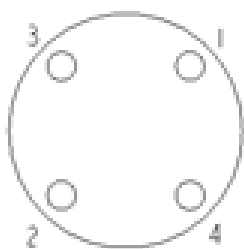

Figure 1: Bolt Tightening Sequence
1.3.4.3.2. Flange bolts should be tight enough to compress the gasket and make a good seal, without distorting or putting excessive stress on the flanges. Suitable washers should be used between the bolt head and flange and the nut and flange. Bolts should be tightened in alternating sequence (Figure 1). See Table 1 for recommended torque.